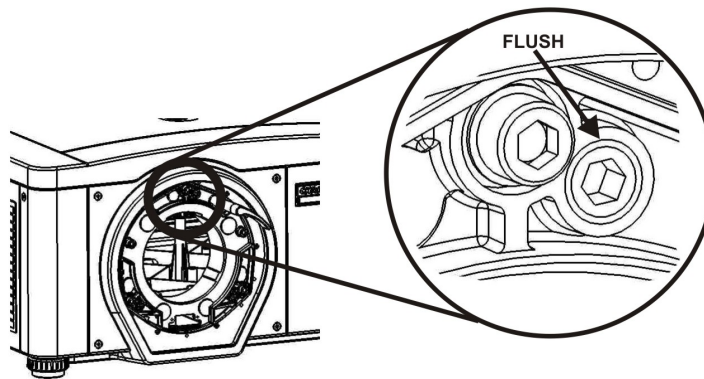

FIGURE 2-10 POSITION SETSCREW FLUSH
9. The original factory boresight can be recovered approximately by positioning the 3 setscrews, see Figure 2-9. Position the setscrews flush with the front face of the lens mount plate and in contact with the inner lens mount plate, see below Figure 2-10. This may require adjusting both setscrews and capscrews.